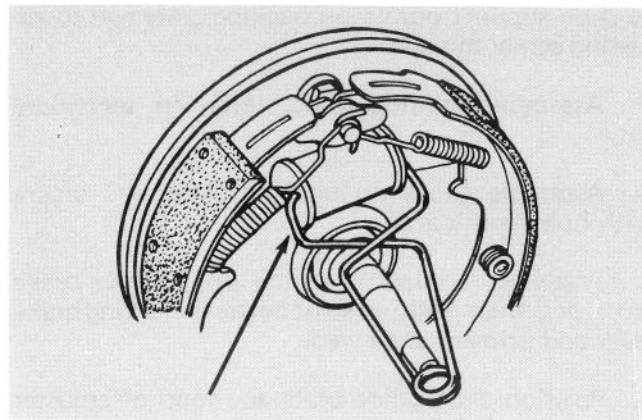

Figure 85
3. Install wheel cylinder clamp (Fig. 85) to hold wheel cylinder pistons in place.